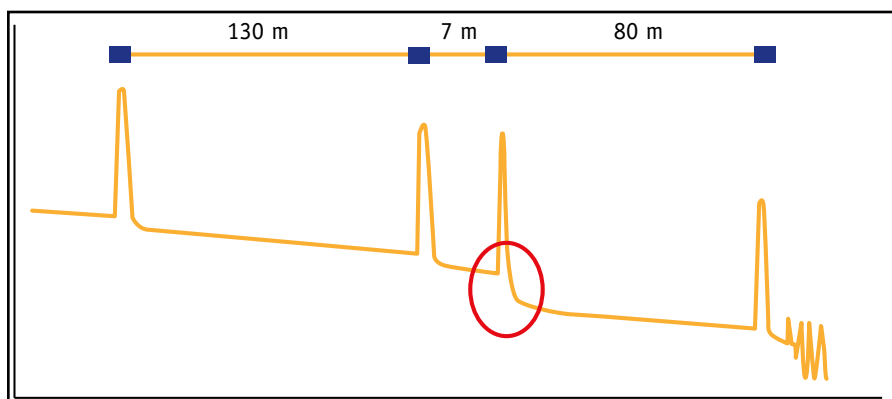

Figure 11 – Sample OTDR trace with high loss connector at 137m
- **OTDR trace** – The OTDR plots the reflectance and loss over time in a graphical "trace" of the fiber. Experienced technicians can "read a trace" and explain it. For example, in **figure 11**, an experienced eye can spot that one side of a cross connect shows excessive loss.